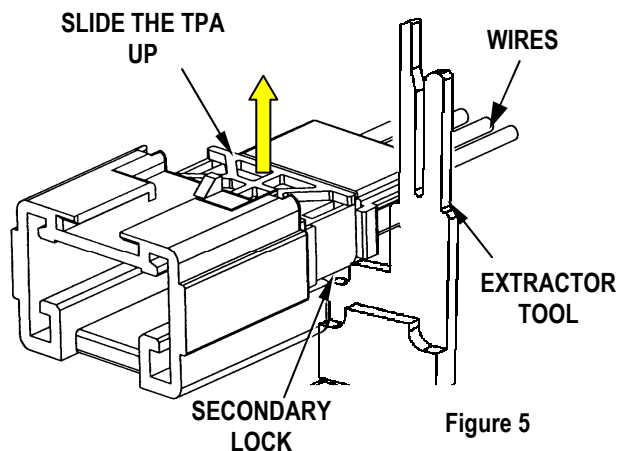

Figure 5
1. The secondary locks on both sides of the connector will need to be unlocked. Position the extractor tool under the TPA™ on one side as shown and push up on the TPA™ cover. Do the same to the opposite side of the TPA™. See Figure 5.